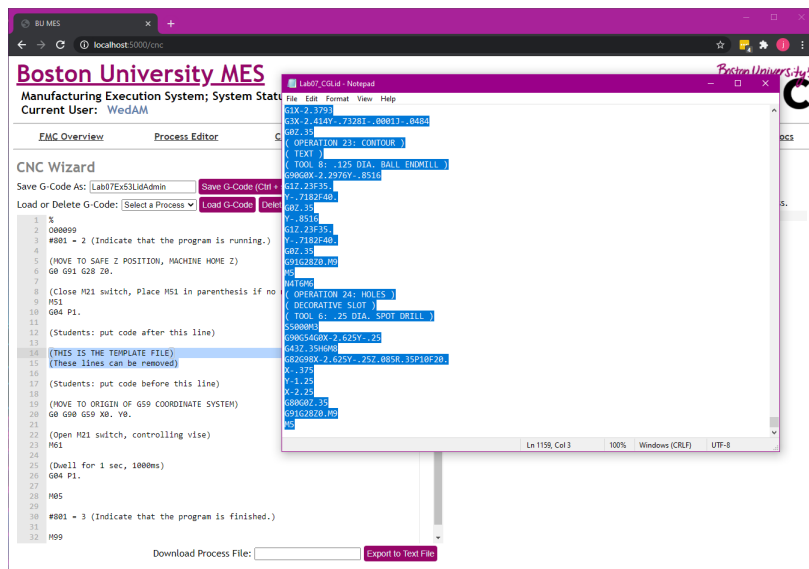

Figure 15: Creating a new BUMES G-Code file
18. Refer to Figure 15. Copy the contents of the modified G-Code file into an empty BUMES template, replacing the lines that say: